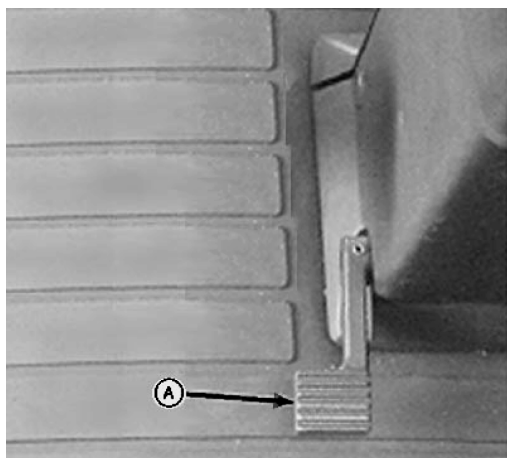

Figure 27. Steering Wheel Tilt Adjust Pedal
Press pedal (A) to release lock on steering column. Put column in desired position. Column locks when pedal is released (see Figure 27).